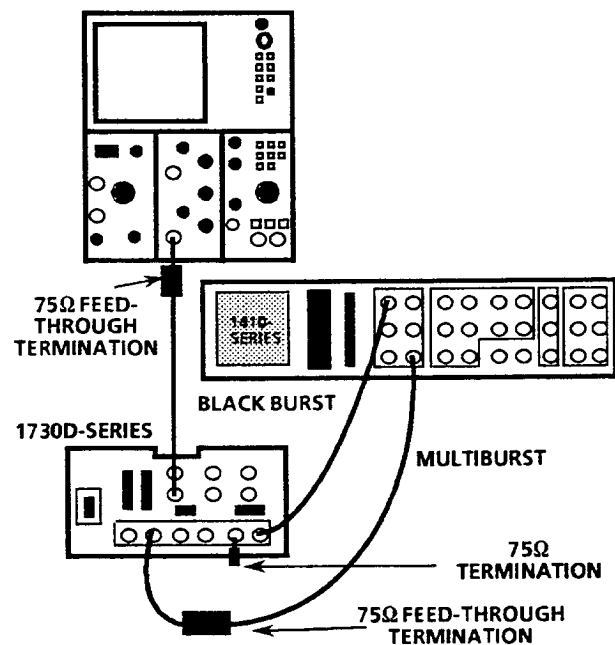

Figure 7-8: Test equipment connections for adjusting high-frequency compensation
- a. Connect the Multiburst signal, through an in-line  $75\ \Omega$  termination, to the CH-1 ANALOG INPUT. Connect the Black Burst signal to the EXT REF INPUT and terminate in  $75\ \Omega$ . Connect a  $75\ \Omega$  cable from the 1730D PIX MON OUT to the test oscilloscope vertical input using a  $75\ \Omega$  in-line terminator. See Figure 7-8.